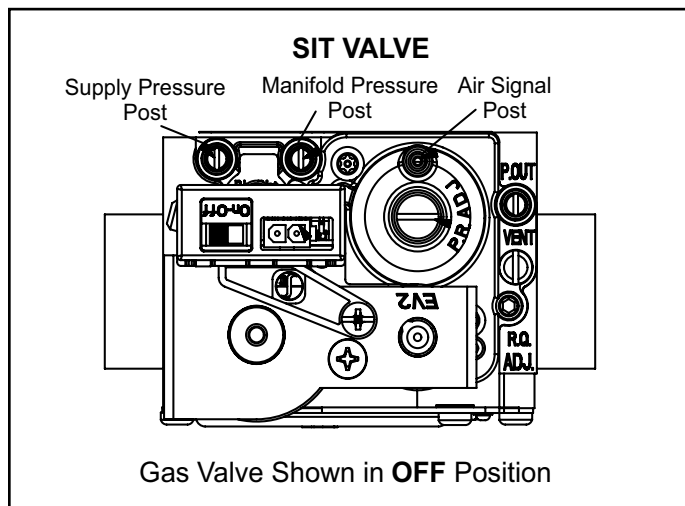

Figure 54. Gas Valve
See Figure 54
6. Move gas valve switch to OFF. See Figure 54 .
8. Move gas valve switch to ON. See Figure 54.